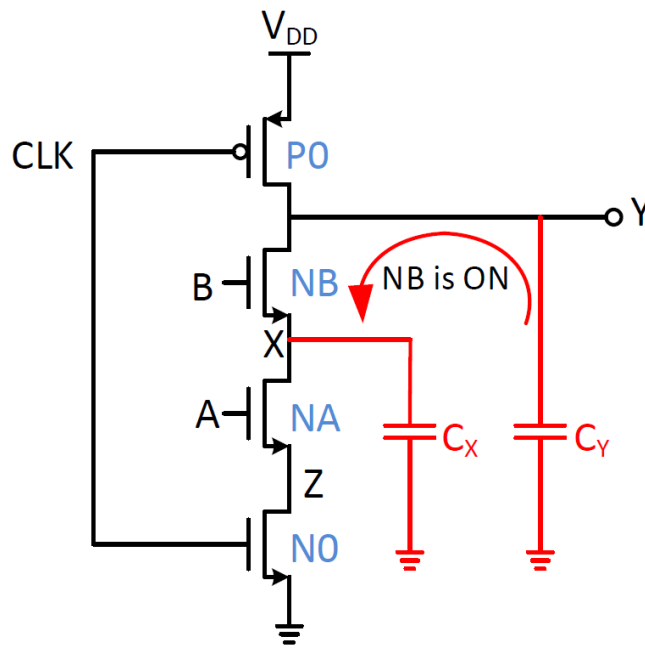
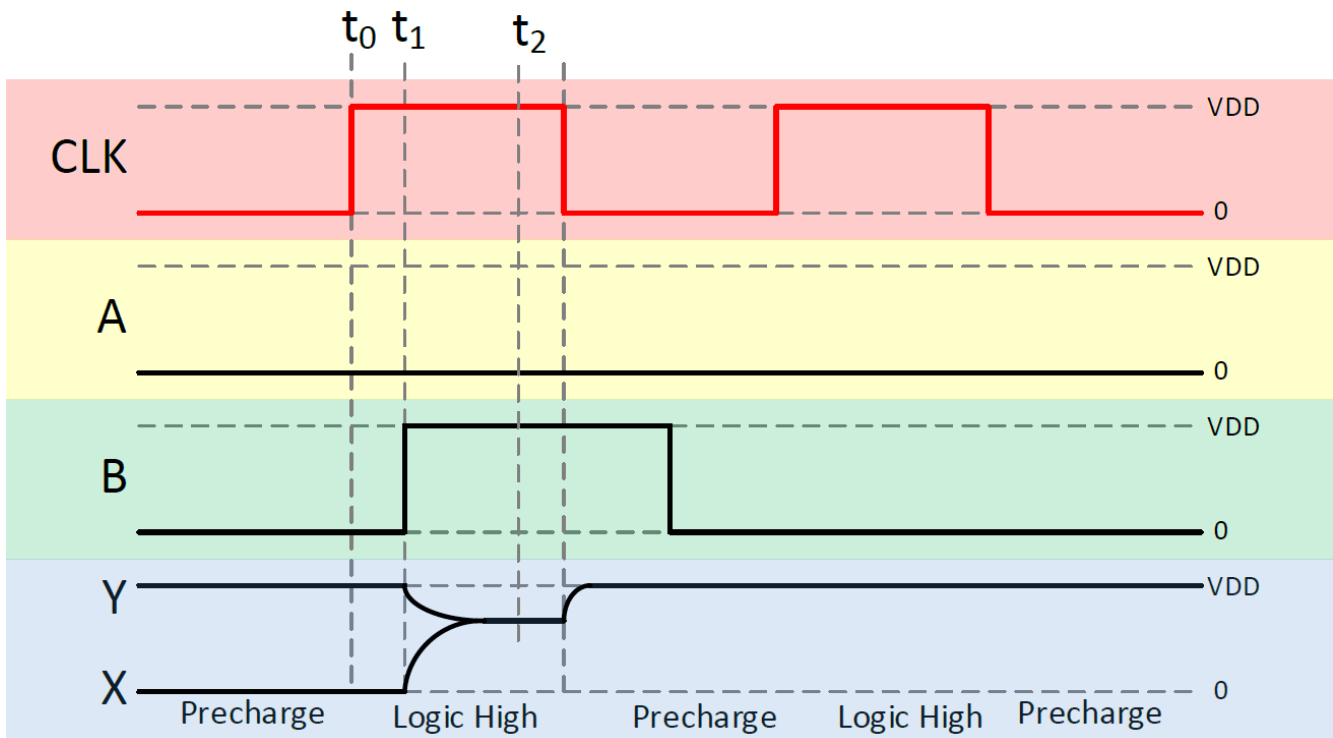
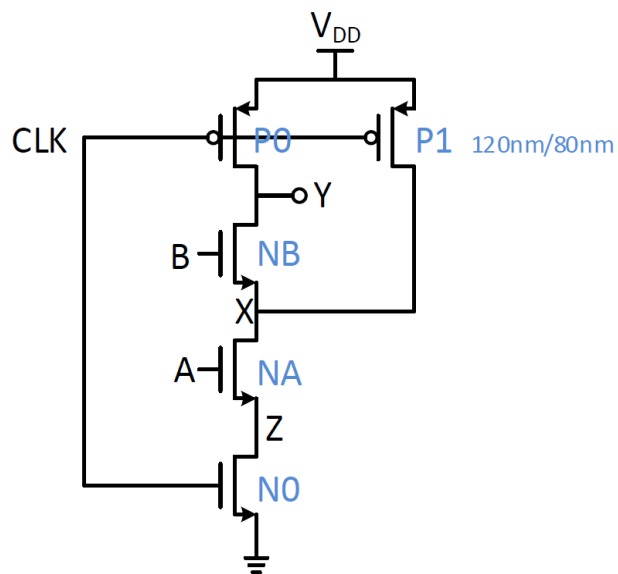

Figure 3: Illustration of the **charge sharing** problem
Figure 4: Signal flow diagram for the dynamic NAND gate of Figure 1 and 3
Figure 5: Dynamic NAND Gate with pull-up devices at all nodes
According to the working principle of a dynamic gate, the output node is charged during the precharge phase. During the evaluate phase, the pull-up device is OFF. By observing the schematic on Figure 3 and the corresponding signal diagram on Figure 4, it can be seen that starting with time t_0 , the output node behaves as a precharged floating capacitor. If the output node is shorted at some time (t_1) to another capacitive node (X), the charge at the output node (Y) is shared between the X and Y nodes. This might result in wrong evaluation of the data as it propagates in the circuit. The solution is to charge all the floating nodes in the network as shown in Figure 5 by adding necessary pull-up devices. However, the additional device increases the parasitic capacitance of the gate and the need to discharge the X node will increase delay time. Note that for the Z node no precharge device is needed since it will be automatically shorted to the ground node during the evaluation phase.
Estimate the values of the parasitic capacitors C_X and C_Y which are on Figure 3. Note that C_X and C_Y are the intrinsic capacitances of the dynamic NAND gate and capacitor C_L is external parameter.
Open the schematic view of the NAND gate and insert a pull-up device for the X node as shown on Figure 5. Redo the simulation with $C_L = 1f$. Do you observe the true functionality now? What can be the reason of the increase on the delay time?